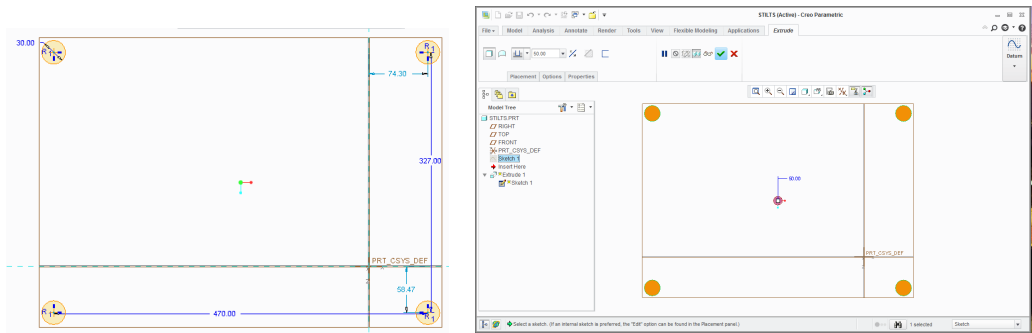

Figure 1.7: Step 7, sketching and extruding the stilts.
7. Repeat steps 2, 3, 4 and 6 for the middle, rear-end and stilts as shown in figure 1.7.